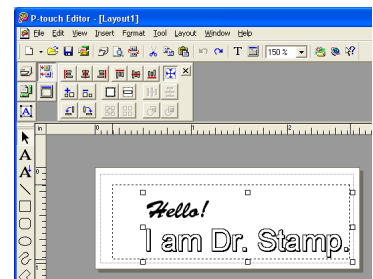

figure 10
- 2 Drag a handle to adjust the text block to the desired size (see figure 10).